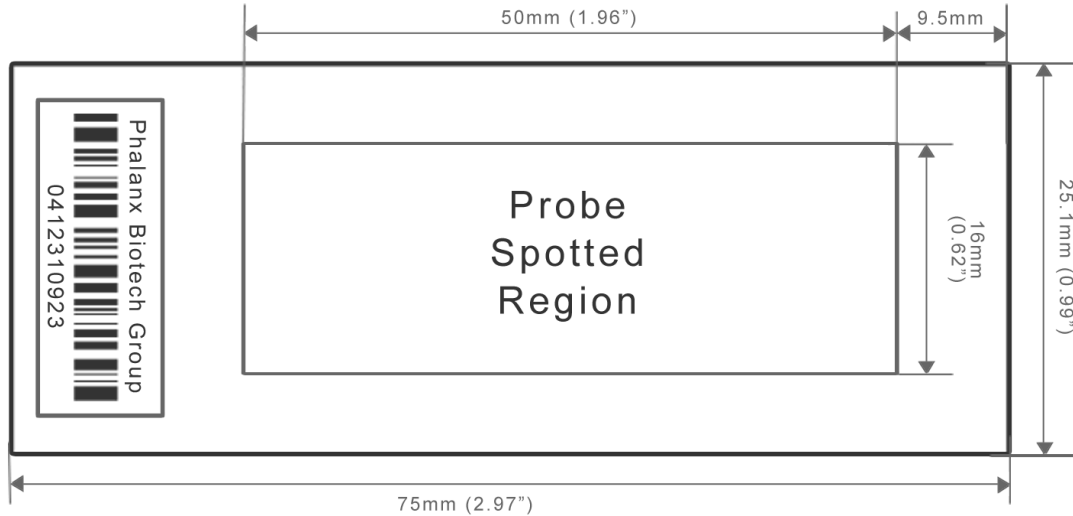

Figure 1: OneArray[®] Microarray Glass Slide with “Probe Printed Region Guide” Plastic Underlay.
i. Remove the clear liner on the back of the hybridization chamber. Align the tab-end of the chamber to the edge of the microarray opposite to the barcode. It is easier to hold the long edges of the chamber in one hand and press down the tab with the other hand.(Figure 1)
- 8) Place the OneArray[®] slide, bar code up, atop the “Probe Printed Region Guide” (included, see Figure 1).